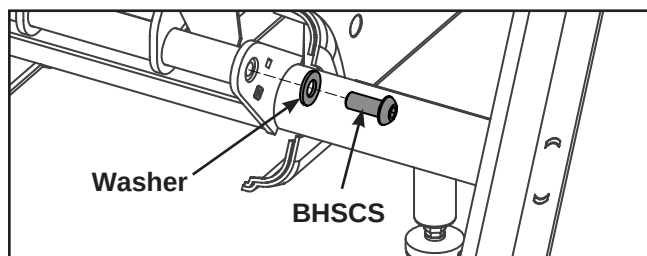
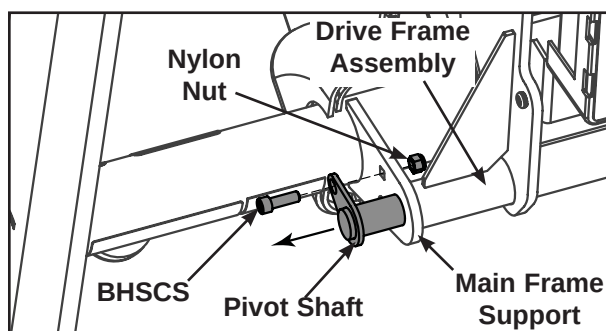

Figure 5
Figure 6
- A. Using a 5/16" Allen wrench, remove the BHSCS and washer. See Figure 5.
- B. Using a 5/32" Allen wrench and a 1/2" open end wrench, remove the BHSCS and nylon locknut. See Figure 6.
- D. While supporting the drive frame assembly. Remove pivot shaft. See Figure 6.
8. Install new pivot shaft (A).
- A. Put grease on both ends of new pivot shaft (A).
- B. Align drive frame assembly with holes in the main frame support and insert new pivot shaft (A). See Figure 6.
- C. Using a 5/32" Allen wrench and a 1/2" open end wrench, attach the BHSCS (B) and nylon locknut (E), tighten securely. See Figure 6.
- D. Place a drop of loctite (F) on BHSCS (C) and another drop inside the pivot shaft where the BHSCS will be tightened.
- E. Using a 5/16" Allen wrench, attach the BHSCS (C) and washer (D) to the pivot shaft (A), tighten securely. See Figure 5.